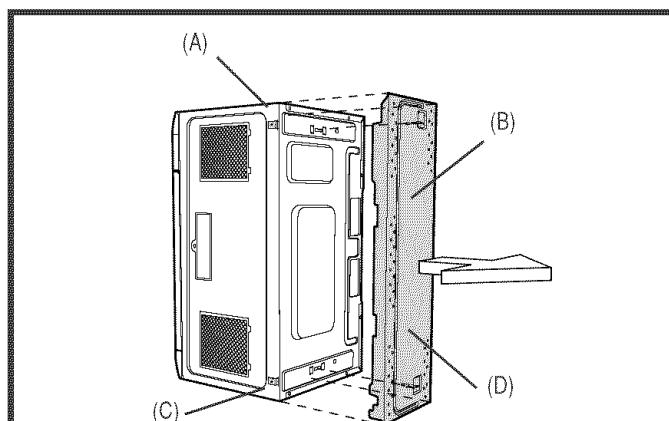

Figure 5
1. Turn oven on the side. See Figure 5.
2. Follow steps (A)-(D) to remove mounting plate from the back of the oven as shown in Figure 5.
- (B) When lever is out, pull that side of the mounting plate away from the oven. See Figure 5.
- (C) Repeat step (A) on other side.
- (D) Repeat step (B) on other side.